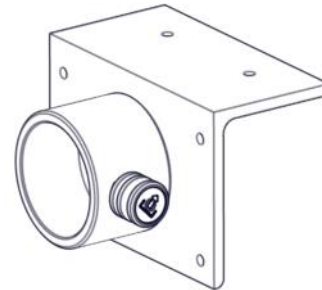

Figure 1-18. Angle Base 3" x 4"
o. **Angle Base 3" X 4".** The Angle Base 3" X 4" (Figure 1-18) incorporates a 2-3/4" (7.0 cm) lip to hang a strut for hands-free operation. Typically used at a trench cave-in where wales must be rebraced before personnel are permitted to enter the excavation.